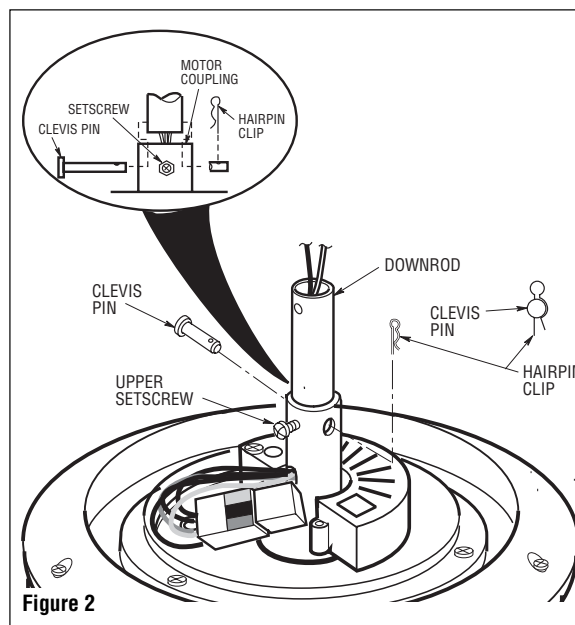

Figure 2
2. Separate, untwist and unkink the two 80" motor leads. Route the motor lead wires through the downrod. Remove the upper setscrew from the motor coupling. Align the clevis pin holes in the downrod with the holes in the motor coupling. Install the clevis pin and secure with the hairpin clip (Figure 2). The clevis pin must go through the holes in the motor coupling and the holes in the downrod. Be sure to push the straight leg of the hairpin clip through the hole near the end of the clevis pin until the curved portion of the hairpin clip snaps around the clevis pin. The hairpin clip must be properly installed to prevent the clevis pin from working loose. Pull on the downrod to make sure the clevis pin is properly installed. Reinstall the upper setscrew in the motor coupling. Check that the lower setscrew is tightened securely (Figure 2).